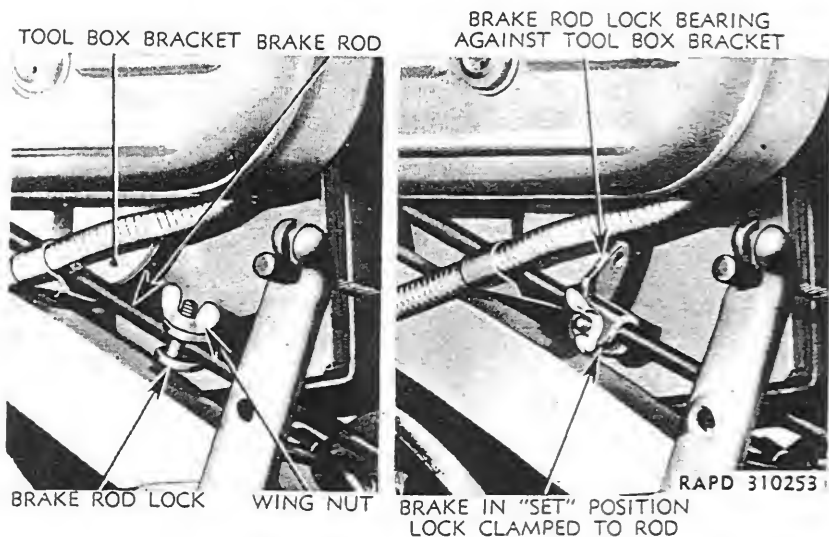

Figure 84—Brake Rod Lock
tool box bracket, securing lock in this position with wing nut (fig. 84).
(5) Loosen wing nut clamping brake rod lock. Move brake rod lock forward so that it will not strike any object when brake is operated; tighten wing nut to retain in position (fig. 84).
(6) Install and securely tighten the five wheel mounting socket screws.
(7) Lower mudguard into position and attach ends of rear stays. Securely tighten the clamping nuts.